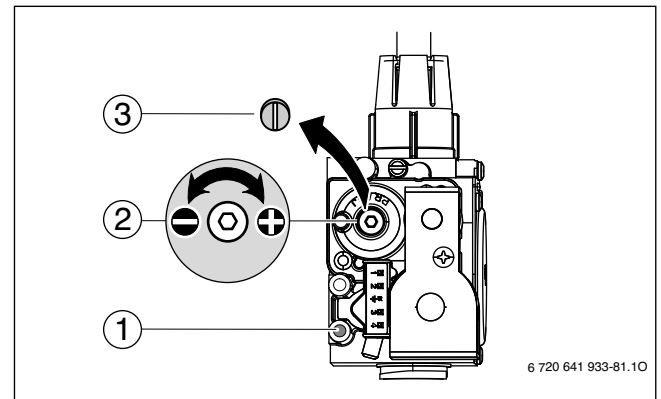
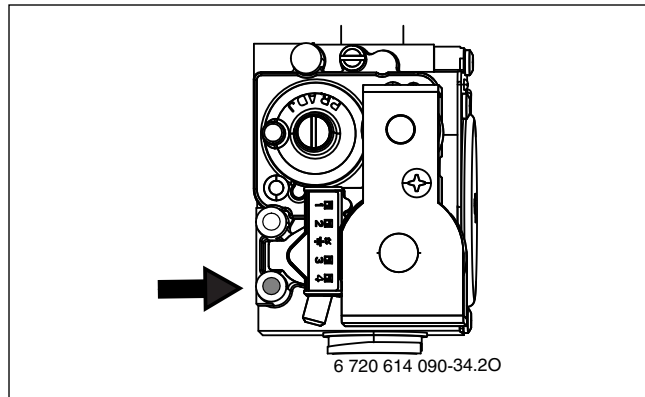

Fig. 79 Set CO₂ or O₂ level for minimum nominal output
Fig. 81 Dynamic gas pressure test port
- ▶ Remove the sealed screw (→ Fig. 79, [3]) from gas valve adjustment screw (→ Fig. 79, [2]) and set CO₂ or O₂ level for minimum nominal output.
- ▶ Reinstall the screw (→ Fig. 79, [3]) to cover the gas valve adjustment screw.
- ▶ Loosen the screw in the test port for gas inlet pressure (→ Fig. 79, [1]) and connect a pressure gauge (→ Fig. 81).